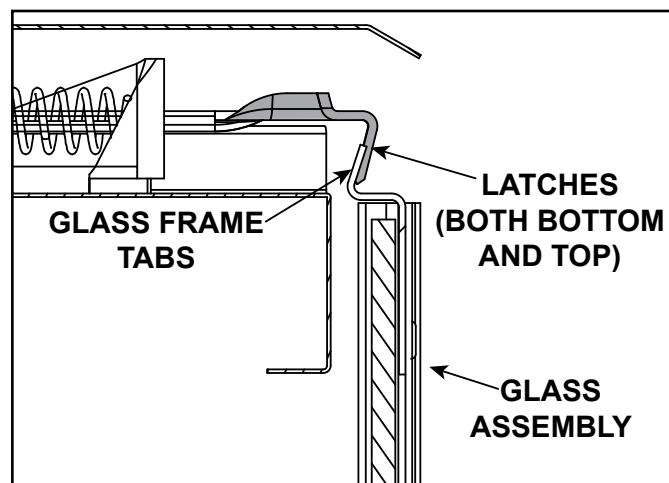

Figure 11.12 Fixed Glass Assembly
- Pull the four glass assembly latches away from the tabs on the glass frame. Remove glass assembly from the appliance. See Figure 11.12.